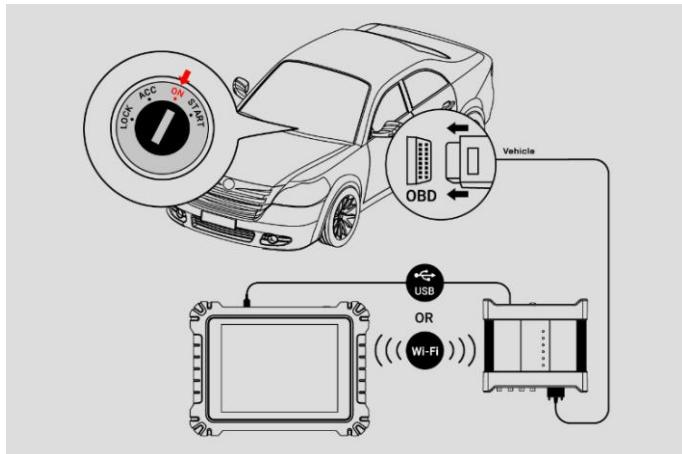

Figure 1-1 Sample Connection Diagram
1. Please refer to *Figure 1-1 Sample Connection Diagram* to complete the connection. Place the ignition in the key on position.